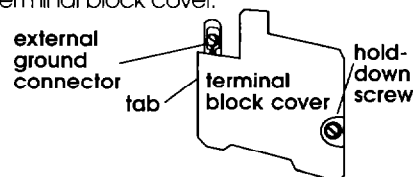

Figure 19
7. Insert tab of terminal block cover into slot of the dryer rear panel (See Figure 19). Secure cover with hold-down screw.